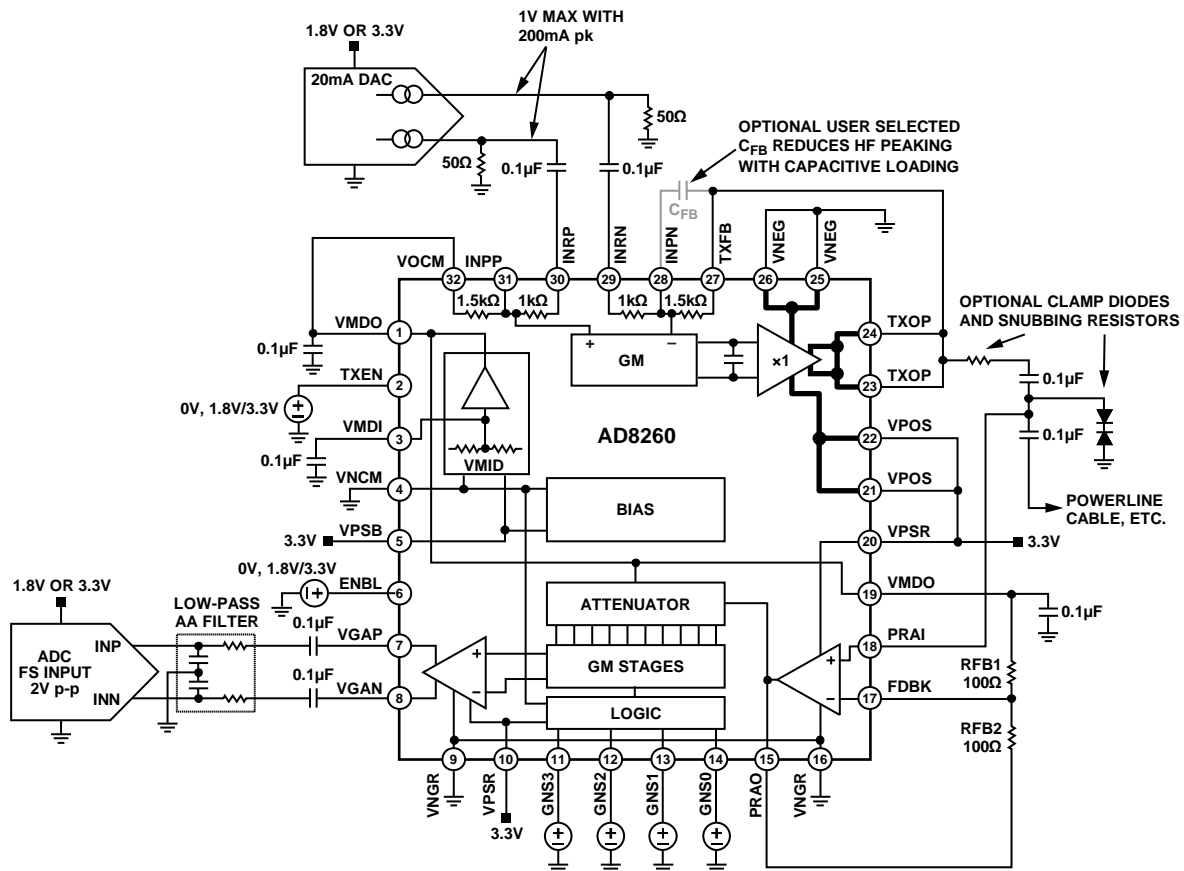

Figure 64. Block Diagram and Basic Application Connections
The AD8260 is a self-contained transceiver intended for analog communications using a power line as the media. Operating on supplies as low as 3.3 V, it includes a high current driver usable as a transmitter and a low noise digitally programmable variable gain amplifier (DGA), usable as a receiver (see Figure 64). An uncommitted current-feedback high frequency op amp acts as a preamplifier and interface to the DGA and is user configured for gains greater than 6 dB. Combined, the VGA and preamplifier are usable at high signal levels from dc to 100 MHz, with a small-signal -3 dB bandwidth of 230 MHz. To implement a high current-output VGA, the VGA output can be connected to the driver-amplifier differential input.
4-bit parallel interface. Figure 64 shows the circuit block diagram and basic application connections, and illustrates the envisioned external DAC, ADC, and power-line bus interface connections. The diagram shows the connections for single 3.3 V supply operation; if a dual supply is available, the VMID generator can be shut down and Pin VMDI, Pin VMDO, and Pin VOVM need to be grounded. Note that Pin VNOCM functions as the negative supply for the bias and VMID cells, plus the logic interfaces, and should always be tied to ground.
For optimal dynamic range, it is important that the inputs and outputs to both the driver amplifier and the preamplifier and the DGA output amplifier be ac-coupled in a single-supply application. In Figure 64, the DAC and ADC are presumed to operate on a 1.8 V or 3.3 V supply with a corresponding limited output and input swing. The DAC outputs are currents that point down and generate a voltage in the $50\ \Omega$ resistors that are connected to ground. The maximum voltage with a peak DAC output current of 15 mA is 0.75 V; if a DAC with a 20 mA peak current is used, then the maximum voltage is 1 V per side for a differential input signal of 2 V p-p.
The high current driver amplifier can deliver very large output currents suitable for driving complex impedances, such as a power line, a 50 Ω line, or a coaxial cable. The input of the amplifier is fully differential and intended to be driven by a differential current-output DAC, as shown in Figure 64. The differential input signal is amplified by 1.5 \times and produces a 2.25 V p-p single-ended output signal from a 1.5 V p-p input signal. A DAC with 15 mA maximum output current into a 50 Ω load provides 1.5 V p-p of input voltage and results in 2.25 V p-p at the output. A DAC whose output is 20 mA produces an output swing of 3 V p-p (neglecting a small gain error when driving the parallel combination of the 50 Ω load-resistor and the internal 1 k Ω gain resistor of the AD8260).
During receive, when the high current driver-amplifier is disabled, its gain setting resistors provide a signal path from input to output. To prevent inadvertent DAC signals from being transmitted while receiving via the preamplifier and DGA, the DAC in Figure 64 must have no output signal.
The VMID buffer is a dc bias source that generates the voltage on Pin 1 and Pin 19, VMDO. Node VMDO cannot accommodate large dynamic currents and requires excellent ac decoupling to ground. A high quality 0.1μF capacitor located as close as possible to Pin 1 and Pin 19 (see Figure 64) is normally sufficient to decouple the high values of current from Node VMDO.
Referring to Figure 64, the signal path consists of a 30 dB programmable attenuator followed by a fixed gain amplifier of 18 dB for a total DGA gain range of -12 dB to $+18 \text{ dB}$. With the preamplifier configured for a gain of 6 dB, the composite gain range is -6 dB to $+24 \text{ dB}$ from single-ended preamplifier input to differential DGA output.
- Use the internal VMID buffer as shown in Figure 64.